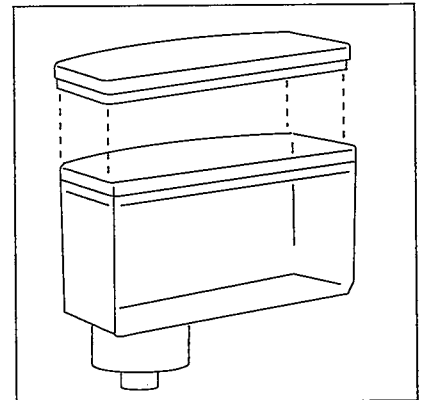

Figure 2
2. Remove Water Tank Cover and set aside, (Figure 2).